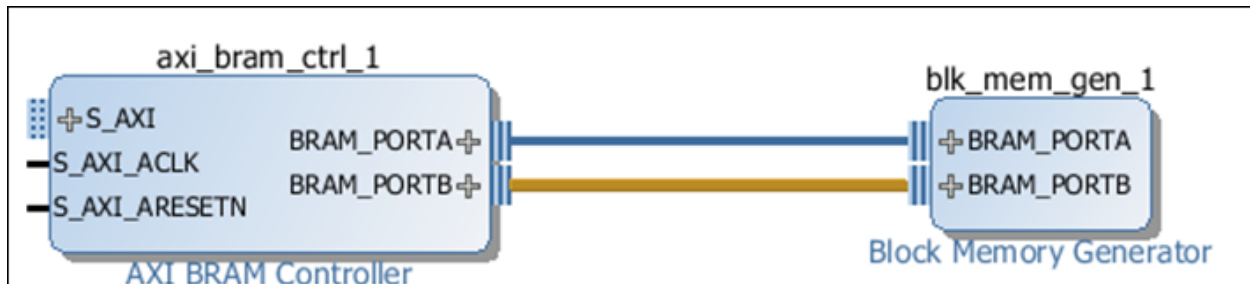

Figure 12: Connected AXI BRAM Controller and Block Memory Generator
- 4. Connect the Block Memory Core to the AXI4 BRAM Controller by clicking the connection point and dragging the line between the IP (Figure 12).